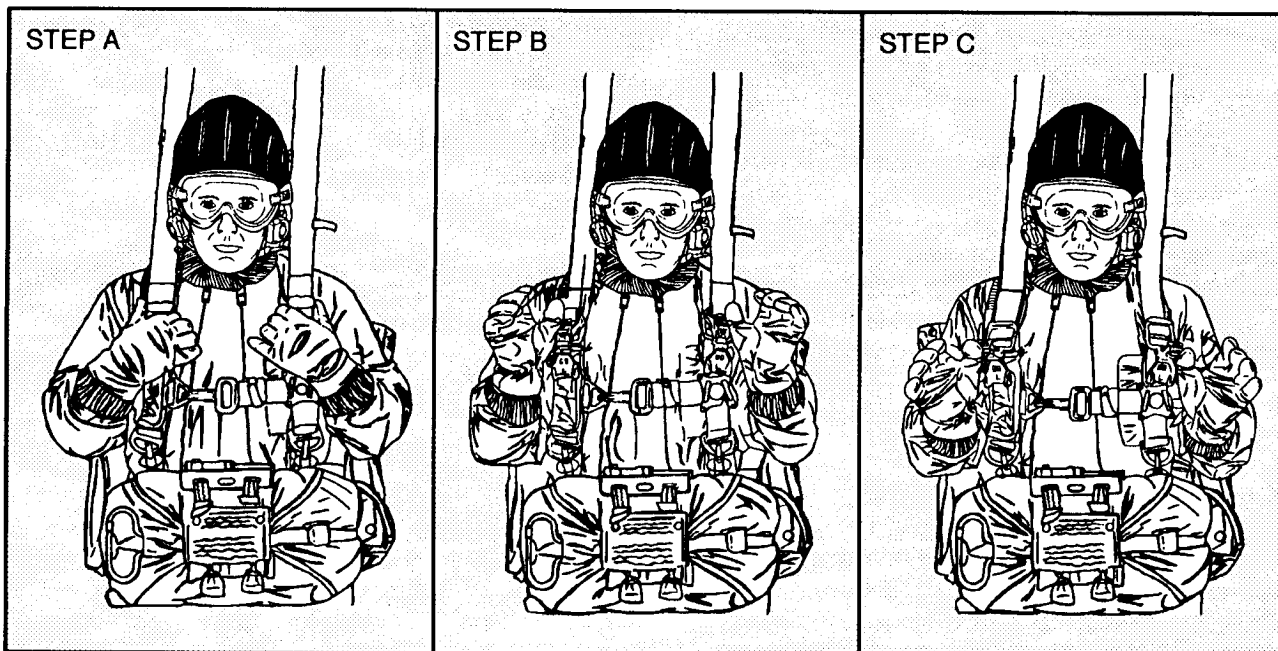

Figure A-9. Cutaway procedures.
Figure A-9 shows cutaway procedures. The parachutist begins the cutaway no lower than 2,000 feet AGL. He does not waste valuable time with repetitious efforts to clear a malfunction. To initiate the cutaway, the parachutist—
assemblies simultaneously with both hands (Figure A-9, Step A).
- Locks his thumbs in the lanyard cable releases (Figure A-9, Step B).
- Keeping his eyes on the reserve rip cord handle, pulls vigorously forward and downward on the cable releases (Figure A-9, Step C).